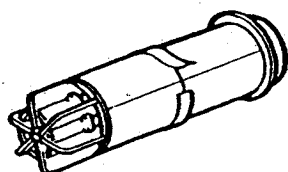

Fig. 45
10. Engage the sections, one inside the other, then open the assembly out to wall thickness. Tape the sections together using the tape provided, ensuring that the seal is good (Fig. 45).